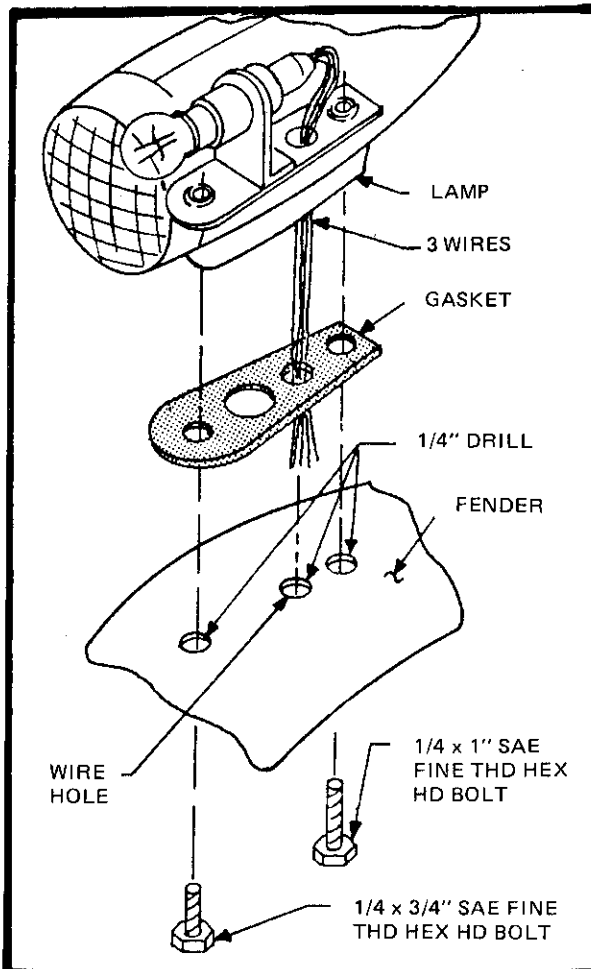

Figure 57
- Using the rubber gasket as a guide, locate the holes for the parking light on the top of the front fender. Move the gasket back and forth until the extreme top of the fender is found. (Figure 57) Drill as indicated for two mounting screws and wires. (1/4"). Attach leads to lights at this time to facilitate hook